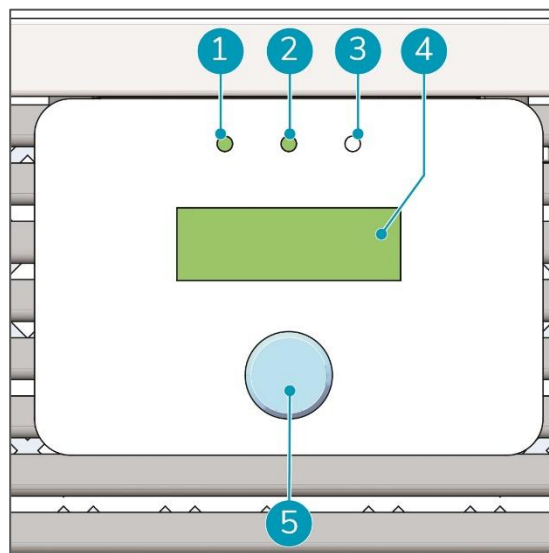

Figure 10
- LED indicators (Figure 10, pos. 1, 2 and 3);
- display (Figure 10, pos. 4);
- operating knob (Figure 10, pos. 5).
- The left green LED indicator (Figure 10, pos. 1) on the control panel is lit.
12. Press the operating knob (Figure 10, pos. 5) to activate the display.
- The center green LED indicator (Figure 10, pos. 2) on the control panel is lit. This indicates that the i-air Pro is in operations mode.
When an error occurs, the i-air Pro sounds an alarm and the red LED indicator (Figure 10, pos. 3) on the right side of the control panel is lit. Check 6.4.7 Status menu on page 24 for information on the error that occurred. Check Troubleshooting on page 30 to find a solution. Please contact your local i-team resell and support service partner when you cannot solve the problem.